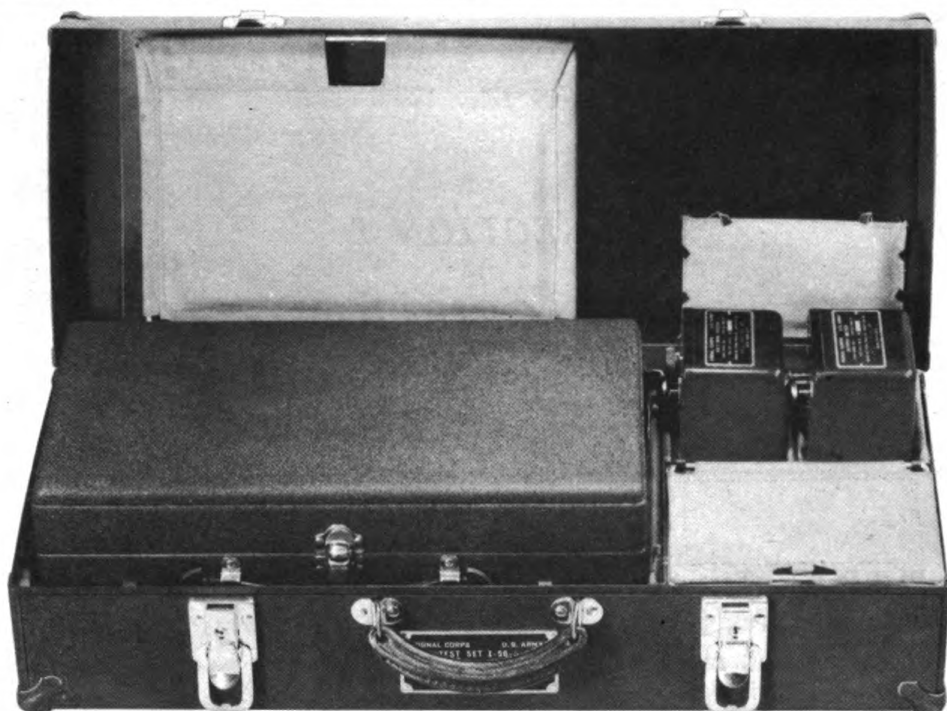

FIG. 1. TEST SET I-56-(*) WITH COVER RAISED TL-7380
2. GENERAL. Test Set I-56-(*) consists of a **combination tester**, a **volt-ohm tester**, an **output meter**, accessories, and a steel carrying case (fig. 1). Model numbers of the components differ since Test Sets I-56-C and I-56-J were made by one manufacturer and Test Sets I-56-D and I-56-H by another. Test Sets I-56-C and I-56-J are practically identical. Test Sets I-56-D and I-56-H are identical. Differences are specifically explained in the text.